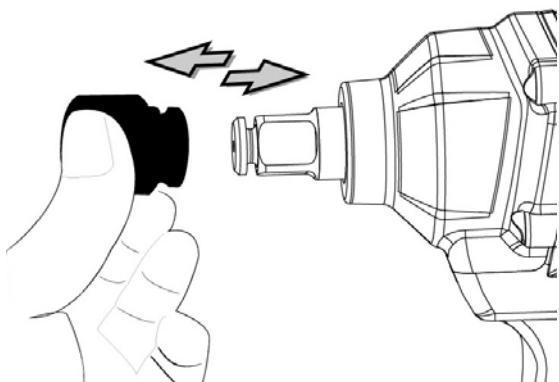

Fig.6
1. To install the socket, push the socket into the driving spindle as far as it will go. (See Fig.6)